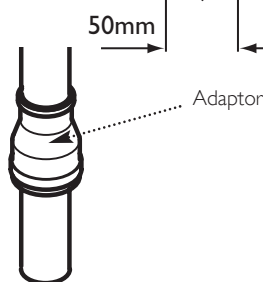
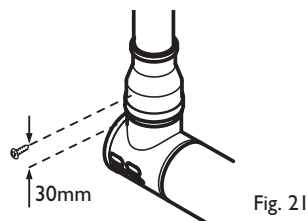

Fig. 22
Fig. 21
9. The 60mm exhaust can now be fitted. Slide the adaptor over the plain end of the 60mm exhaust (Fig. 22) and engage the exhaust in the terminal. Slide the adaptor down over the spigot. Mark and drill the adaptor, using a 2mm bit, as shown in Fig. 21. Secure the adaptor to the spigot using one of the screws supplied.